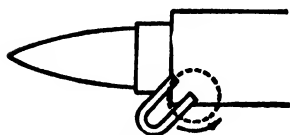

FIG. 44
15. If chain links are being welded, bend the pieces of stock into U-forms. Heat the ends of the sides of the U to a bright red heat and place it on the sharp edge of the anvil just above the chipping block, with the outside of the edge of the left side of the U coming exactly even with the sharp edge of the anvil, and the sides of the U forming a 45 degree angle with the horn; the other side of the U extending over the face of the anvil. Fig. 44. In this position strike a flat